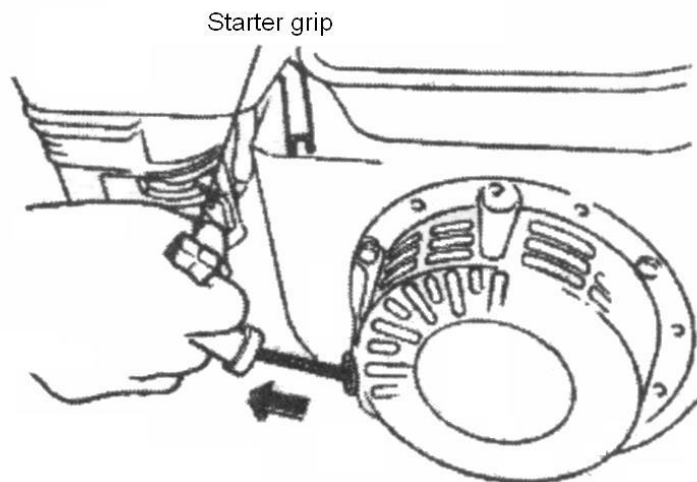

Figure 13. Starter Grip
5. Grasp the starter grip (figure 13) and slowly pull it out. The resistance becomes the hardest at a certain position, corresponding the compression point. Rewind the rope a little from that point and pull out sharply.